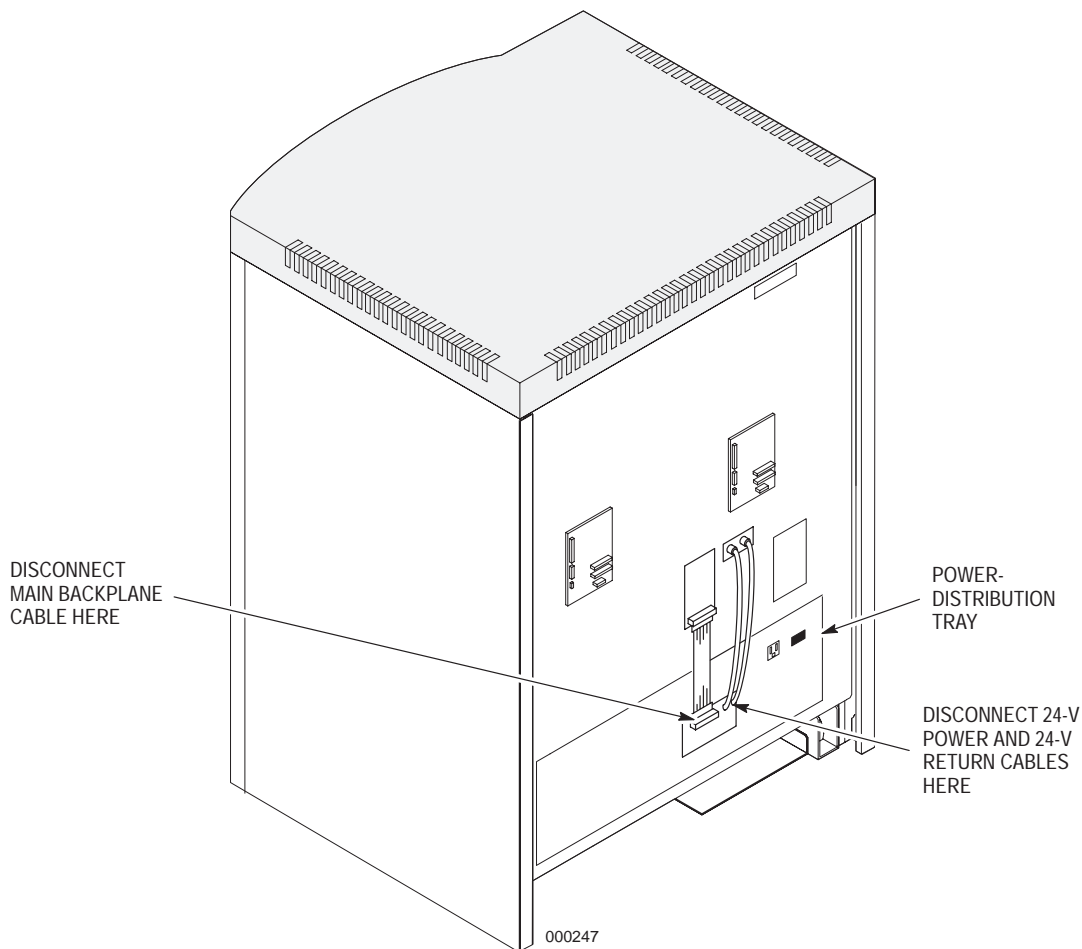

Figure 11-9. External Connections to the Power-Distribution Tray.
8. Disconnect the lugs on the 24-volt power cable and the 24-volt return cable from the power-distribution tray connections, as shown in Figure 11-9.
9. Disconnect the main backplane cable from the connector on the power-distribution tray (Figure 11-9).